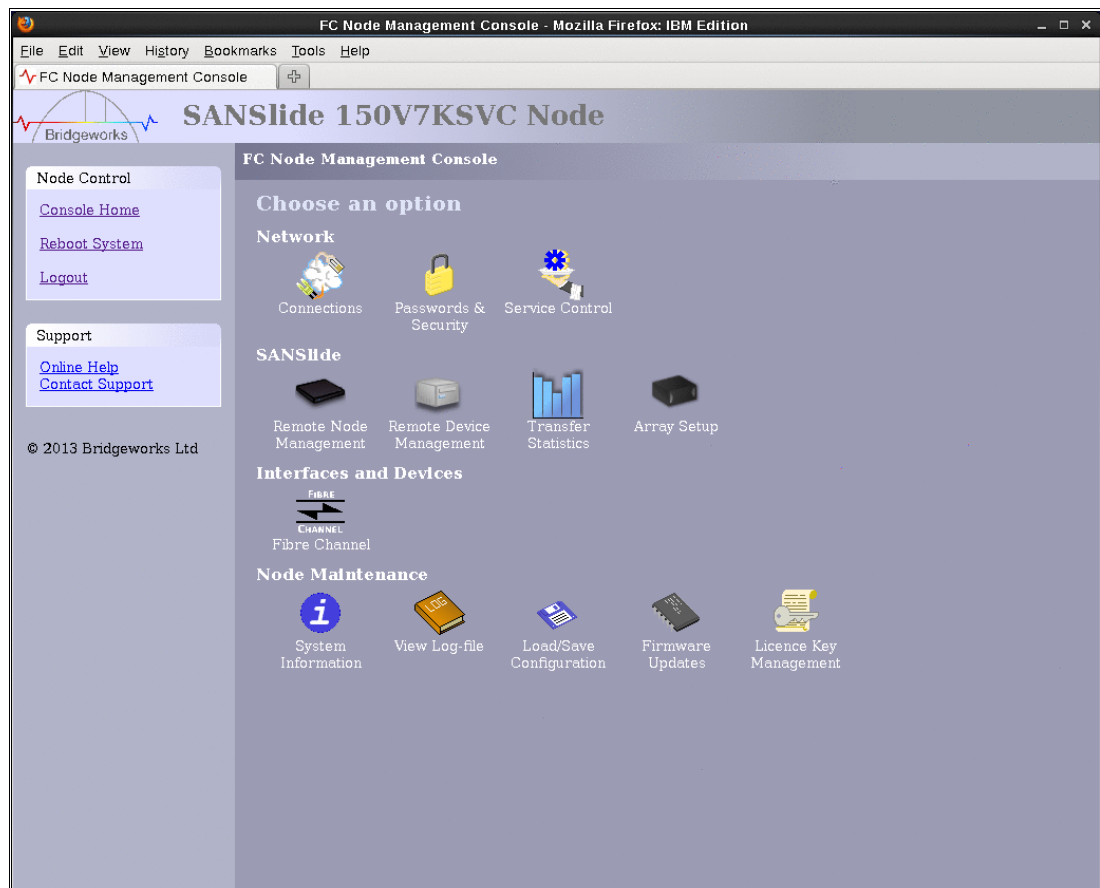

Figure 2-5 SANSlide 150 node main menu
3. Make your selection from the SANSlide 150 node main menu (Figure 2-5).